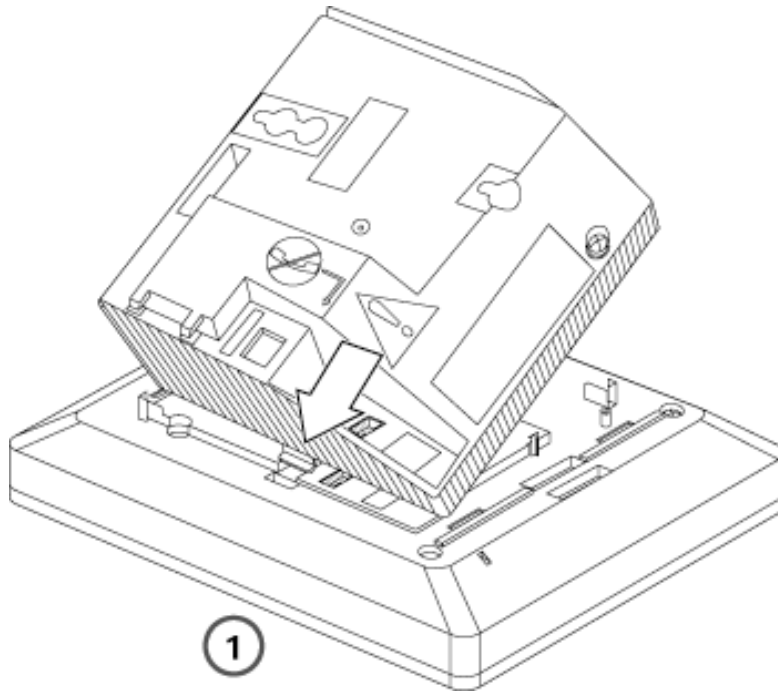

Figure 3-38. Placing the Module Cover into the Locating Slot
1. Place the locking tab on the module cover into the slot on the left side of the telephone as shown in item 1 in Figure 3-38.